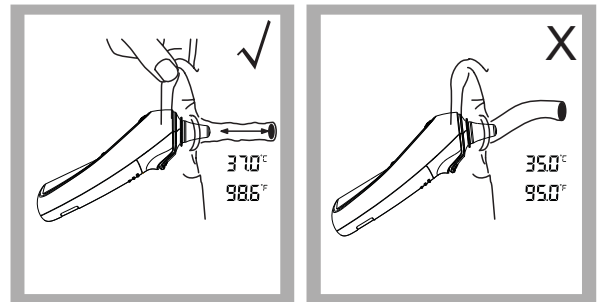
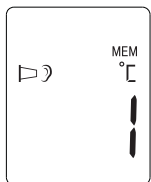

Figure 3
Figure 7
3. Insert the probe along the ear canal as deep as possible into the ear as depicted in Figure 3. Then press the **BLUE BUTTON** once to start the measurement. A long beep will sound approximately 1 second after the **BLUE BUTTON** is activated. This signals the end of the process as results are displayed on the LCD screen.
When the thermometer has been turned on and followed by Figure 3 or finished testing, press and hold the **⏻** Button for three seconds. The letter MEM will appear in the center left corner of the display. (See Figure 7)